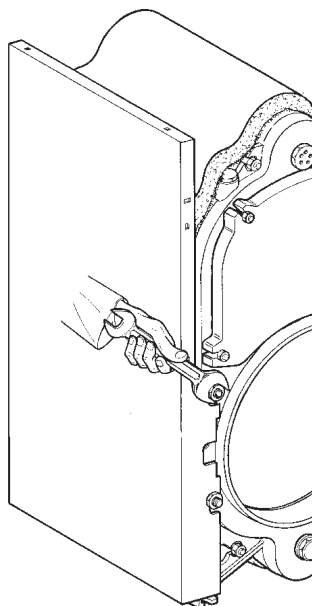

Fig. 30
5.07 (Fig. 30) Slacken nuts 1 on the left-hand side of the boiler and mount the left-hand side part, checking that the machined slots fit into their correct position. Now torque nuts 1.